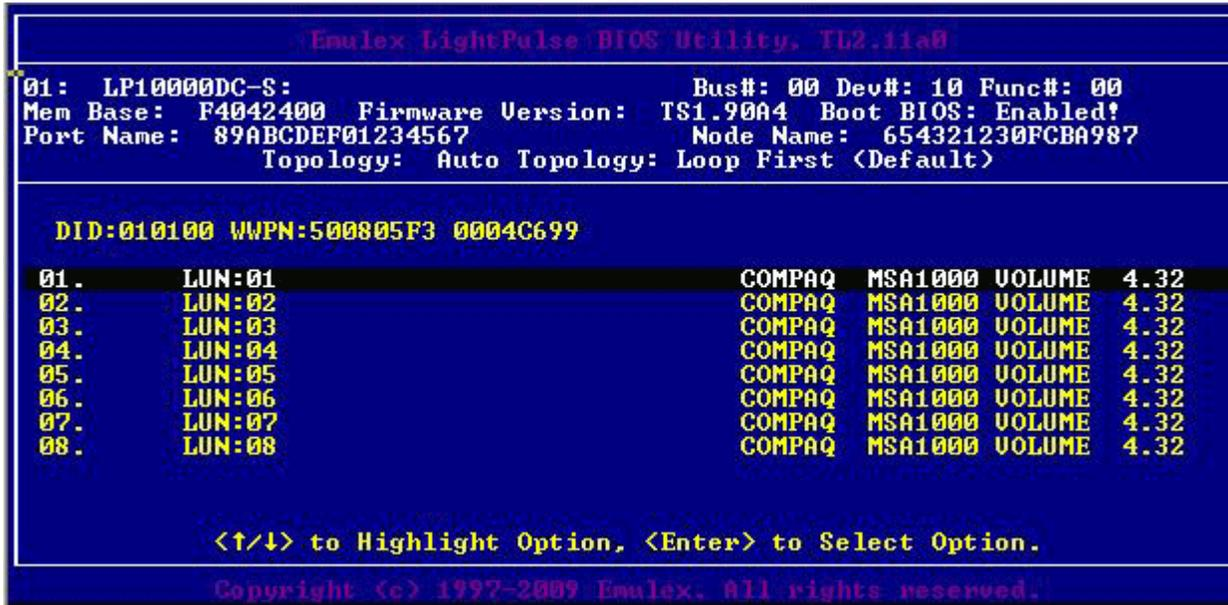

Figure 6: LUN listing screen
- If you select a device, you are asked for the starting LUN. Enter the starting LUN (Figure 6). The starting LUN can be any number from 0 to 255.